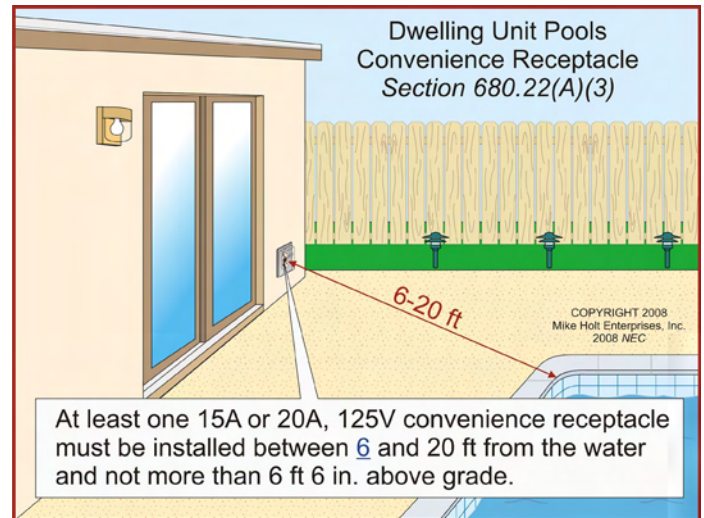

Figure 680-15
(3) Dwelling Unit. At a dwelling unit, one 15A or 20A, 125V receptacle must be located not less than 6 ft and not more than 20 ft from the inside walls of a permanently installed pool, outdoor spa, or outdoor hot tub. This receptacle must be located not more than 6½ ft above the floor, platform, or grade level serving the permanently installed pool, outdoor spa, or outdoor hot tub. **Figure 680-15**